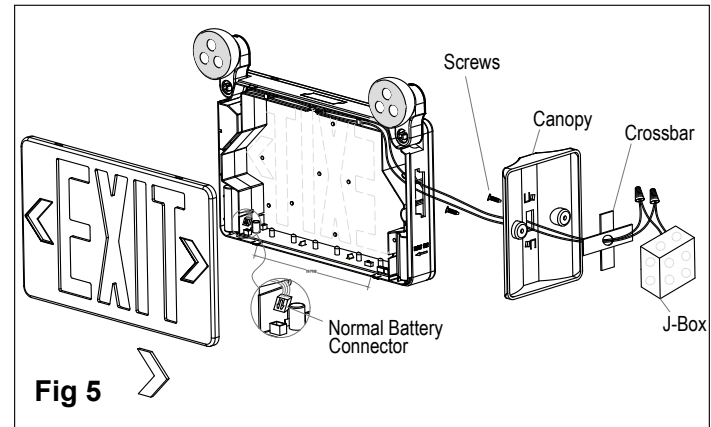

Fig 5
Side or Ceiling Mounting (see Fig 5, Fig 6)
7. Make electrical connections inside the J-Box as wiring diagram (see Fig 5).